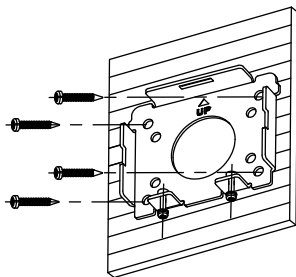

Figure 2-67 Fix the bracket
3. Fix the bracket to the target position with four screws (PA4×25) in the package (supplied), making sure the direction of the sign "UP" is upward as shown in Figure 2-67.